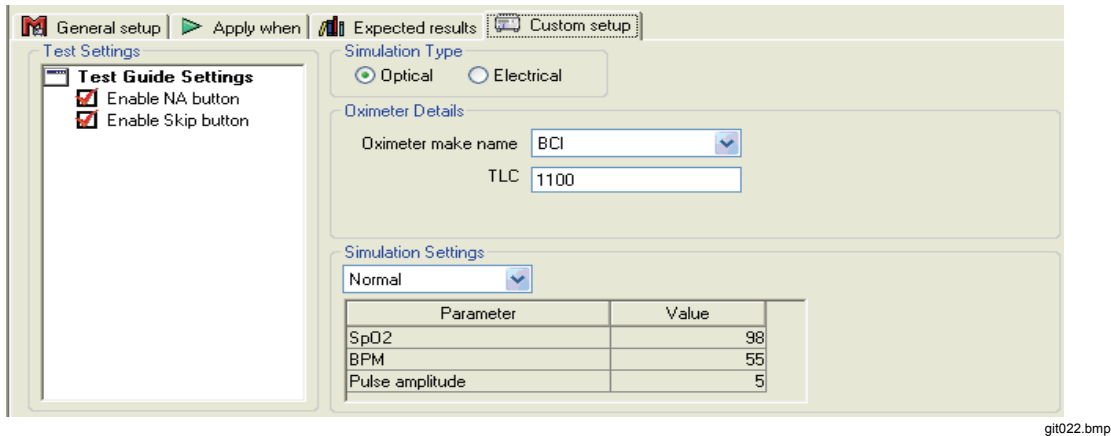

Figure 4-5. Custom Setup Page for SpO2 Simulator Test Element
- Click the **Custom setup** tab to view and define the parameters used in tests. Test elements have unique custom setups for the capabilities they provide. An example is shown in Figure 4-5.
6. Click the **Custom setup** tab to view and define the parameters used in tests. Test elements have unique custom setups for the capabilities they provide. An example is shown in Figure 4-5.